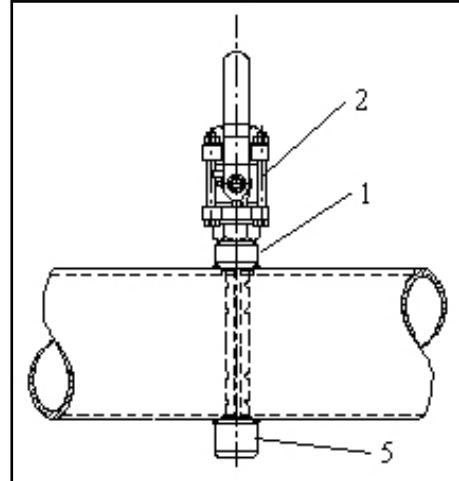

Fig 12 Mounting hardware with end support
The design of the Itabar-Sensor types IBR-21/26/36 is almost identical to the types IBR-20/25/35. The only difference is the end support (see fig. 12), which permits higher stream velocities in the pipe. Except for the installation of the sensor end support, the installation steps are identical to those for type IBR-20/25/35.
2. Tack the weld socket (1) onto the pipe leaving approx. 2 mm clearance. Align the socket (e.g. with a bolt or a pin so that it is exactly perpendicular to the pipe axis (see fig 12).
3. Before final welding and installing the sensor, the end support (5) has to be mounted.